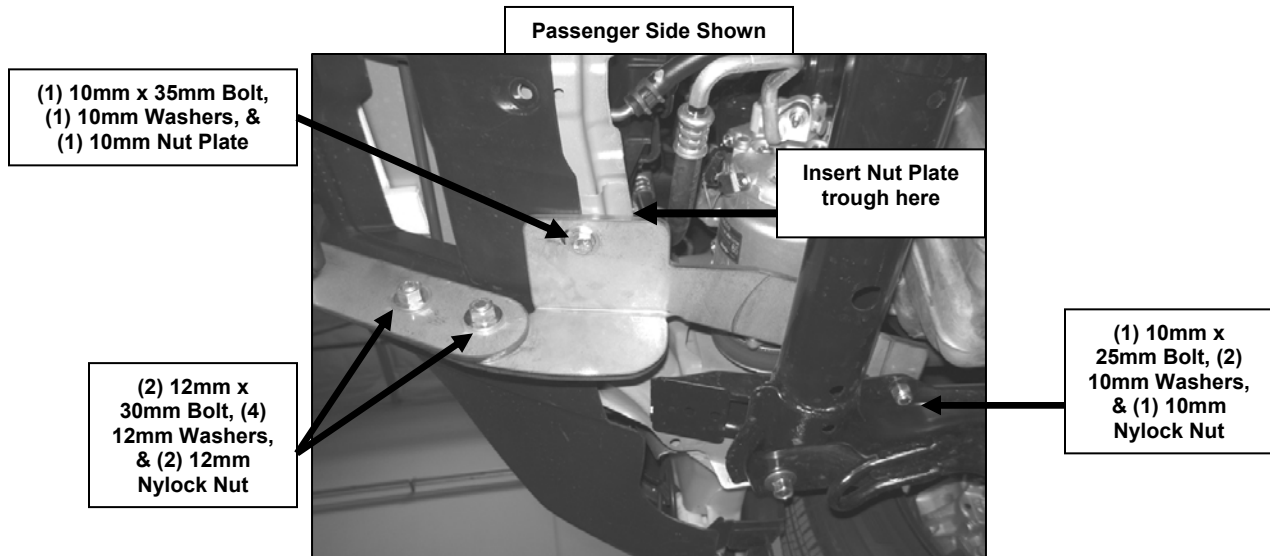

Figure 2
- Slide Passenger Side Mounting Bracket through the previously cut out slot on the plastic shroud and position bracket to its mounting location (Figure 2). **NOTE:** Rear hole on the Mounting Brackets should line up with the holes on the plastic shroud as well.
- Install the rear of the Passenger Side Mounting Bracket to existing hole on the sub-frame with the included (1) 10-1.50mm x 25mm Hex Head Bolt, (1) 10mm Nylock Nut, and (2) 10mm Flat Washers(Figure 2). Do not tighten hardware at this time.
- Install the front of the Passenger Side Mounting Bracket to the existing hole on the factory bumper with the included (1) 10-1.50mm x 35mm Hex Head Bolt, (1) 10mm Flat Washer, and (1) 10mm Nut Plate (Figure 2). Do not tighten hardware at this time. **IMPORTANT: Before you thread Bolt into Nut Plate, make sure you measure the bolt. The bolt should measure no more than 40mm / 1 9/16". If the bolt is longer than 40mm / 1 9/16", contact your local retailer. Do not attempt to install the bolt if it is longer than 40mm / 1 9/16", doing so will cause damage the radiator.**
- With help position Grille Guard on the inner side of the Mounting Brackets. Attach Grille Guard to Mounting Brackets with the included (4) 12-1.75mm x 30mm Hex Head Bolts, (4) 12mm Nylock Nuts, and (8) 12mm Flat Washers (Figure 2). Do not tighten hardware at this time.
- Align hole on the passenger side Top Bracket with hole on the Grille Guard plate. Attach Top Bracket to Grille Guard plate with the included (1) 10-1.50mm x 25mm Allen Bolt, (1) 10mm Flat Washer, and (1) 10mm Lock Nut. Repeat this step for driver side. Do not tighten hardware at this time.